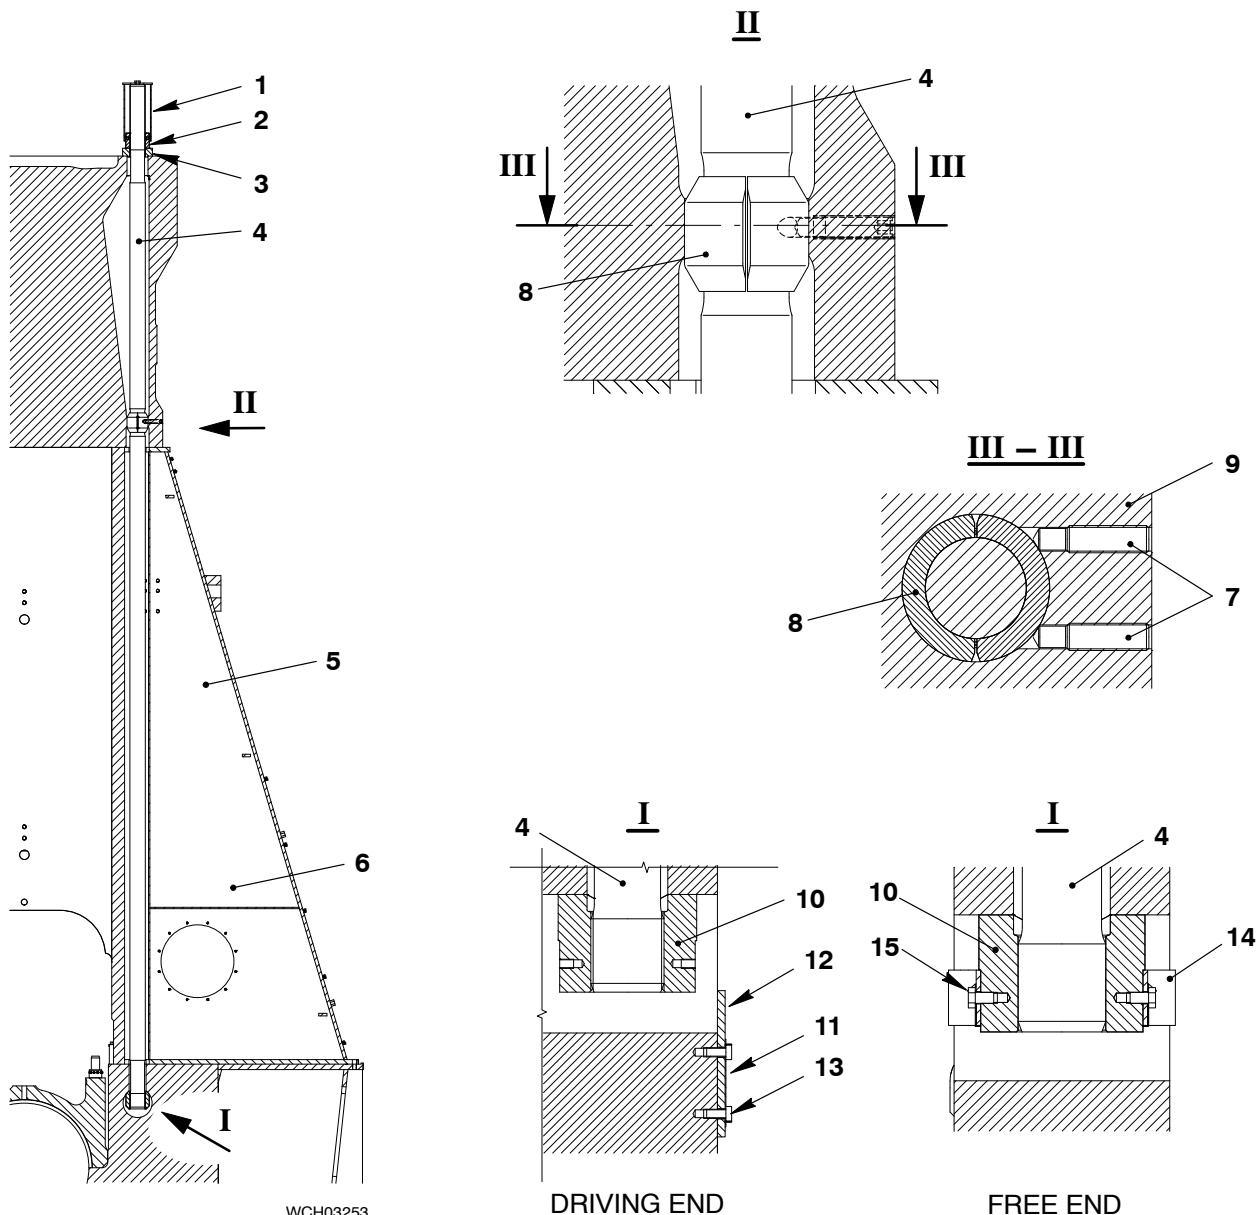

Fig. 2: Tie Rod Assembly
The two-part bush (8) is welded on the tie rod (4, Fig. 2). At the bottom of the cylinder block, two set screws (7) keep the two-part bush in position to prevent vibration of the tie rods.